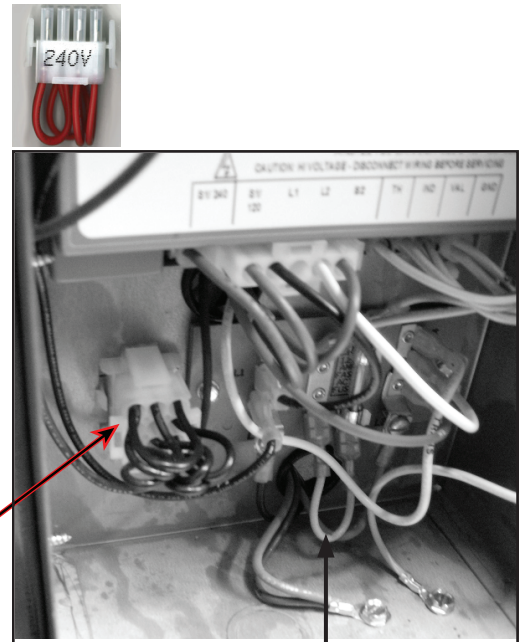

Figure 27. Fireman's Switch Jumper
- Remove the factory installed jumper from the Fireman's Switch terminals. **(See Figure 27 on page 21).**